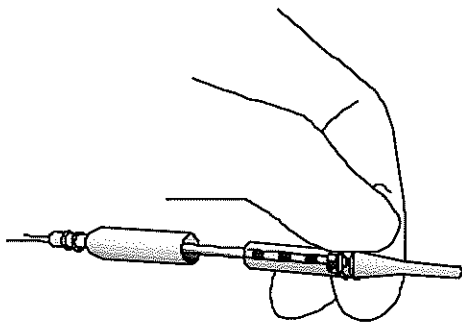

Figure 27: Hold setscrew connector block between thumb and forefinger.
4. Hold the setscrew connector block firmly between thumb and forefinger to prevent rotation (Figure 27).